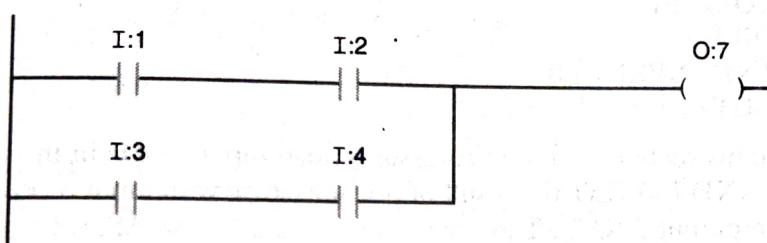
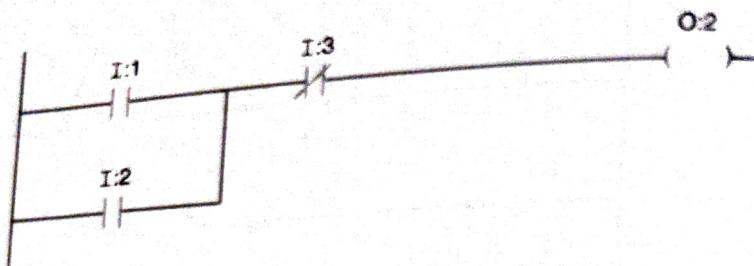

Figure 6-39 This ladder could also be created from the same listed instructions.
Figure 6-40 Allen-Bradley MicroLogix 1000 combinational logic.
The ladder rung in Figure 6-39 can also be developed from the listed instructions.
4. Typically, if two or more instructions are to be programmed on a parallel branch, such as in Figure 6-39, special instructions are used to connect, or group, parallel instructions on that branch. If no grouping instructions are included in the program, the default of one instruction per parallel branch, as illustrated in Figure 6-40, will be programmed.
Figure 6-40 shows a ladder and program for combinational logic programming with an Allen-Bradley MicroLogix 1000.
Rule three identifies the programming sequences when entering an instruction list program, such as in Figure 6-40. Instructions should be entered in the following order: I1, I2, I3, O2.